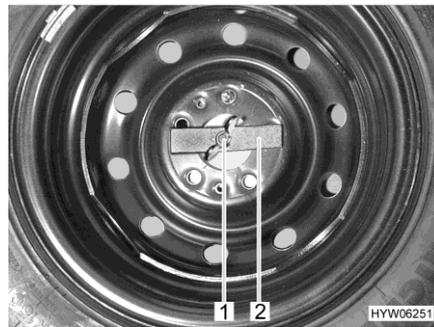

Fig. 161 Spare wheel in the rear storage space
- Loosen the wing nut (Fig. 161,1) by hand and unscrew it.
- Remove the pad (Fig. 161,2).